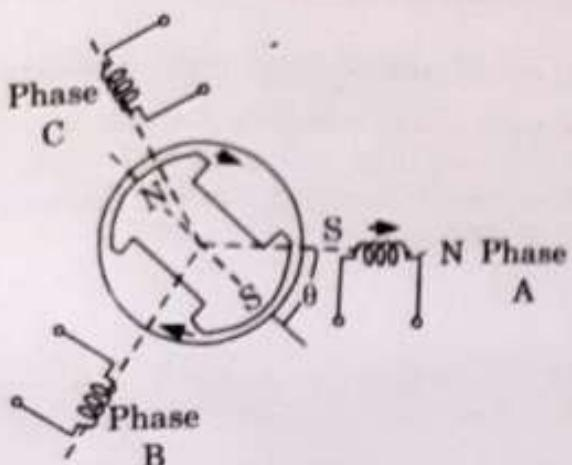

Fig. 4.8.2. An elementary form of brushless DC motor.
- Fig. 4.8.2 shows an elementary form of three-phase stator winding and the permanent-magnet rotor with two poles.
- When phase A is energized, stator S and N poles are created as shown in Fig. 4.8.2. Stator S pole repels rotor S pole and attracts rotor N pole, thus producing clockwise torque.